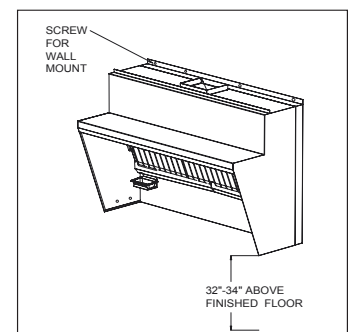

FIGURE 2
5. Bottom of ventilator should be 32"-34" above finished floor (See Fig. 2).